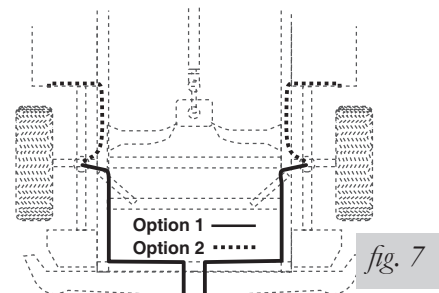

fig. 7
- Select a location for the inflation valve in the gas cap well, the trunk, rear bumper, fender flange or behind license plate, insuring that the valve will be protected and accessible with an air hose (Fig. 7).